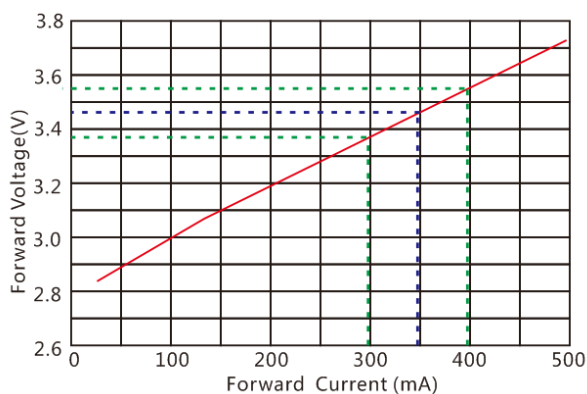

Figure 3.27 LED lamp V-I curve
A LED light bar has 10 piece LEDs in series, each single LED I-V curve showed in Figure 3.27.
3. According to the V-I curve in Figure 3.27, the tangent line slope of the working point is the operating point resistance R_d ,